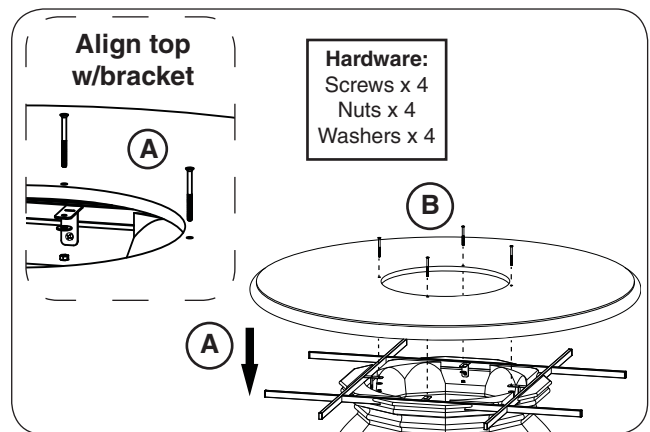

Fig. 24-3 Place top and fasten
4. **CAREFULLY** place the top on the unit, ensuring that the holes in the top piece align with the holes found in the bracket below (see Fig. 24-3, A).
5. Use a Phillips screwdriver and the supplied bolts (4), nuts (4), and washers (4) to fasten the top piece to the bracket as shown in Fig. 24-3, B.